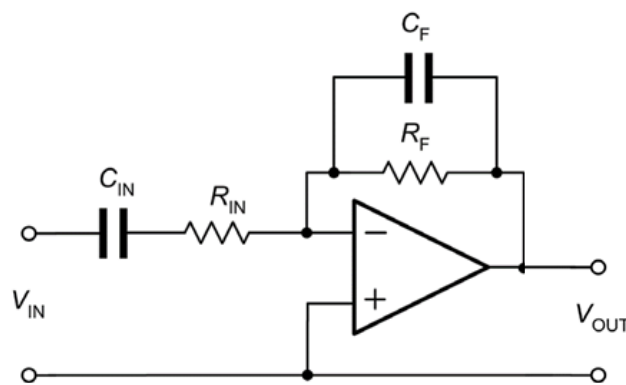

Figure 1.37 Adding capacitors to modify the frequency response of an inverting operational amplifier
- In such cases, capacitors of appropriate value may be inserted in series with the input resistor,  $R_{IN}$ , and in parallel with the feedback resistor,  $R_F$ , as shown in Fig. 1.37.